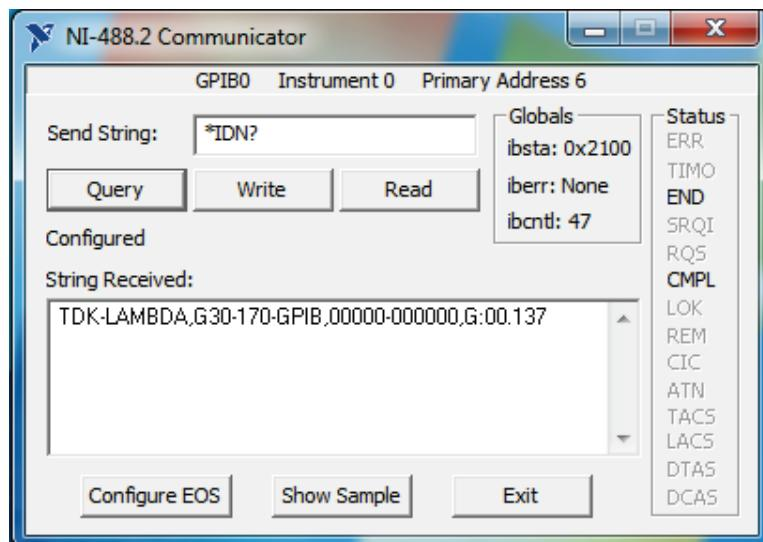

Figure 7–6: ID String Query
6. Click Query. Refer to Figure 7–6.